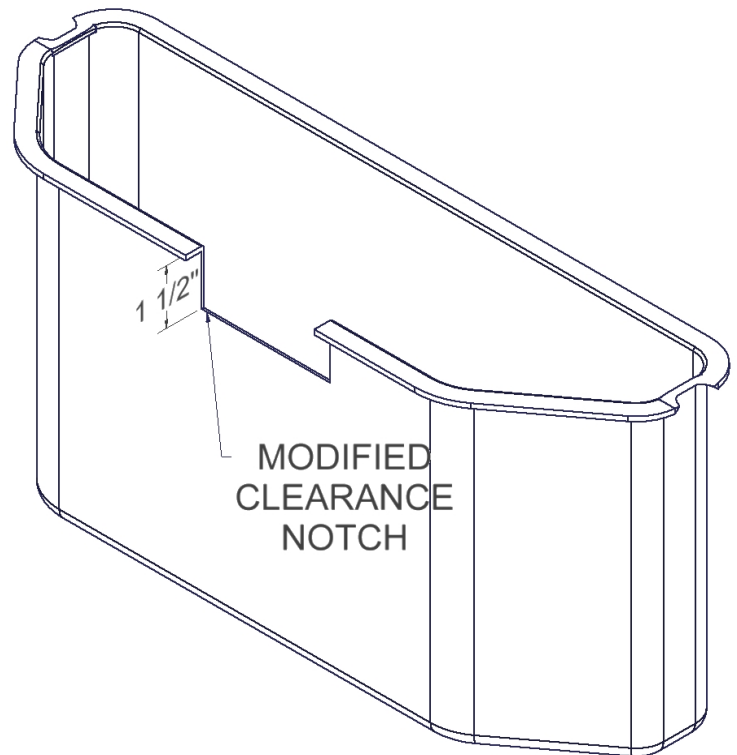

FIGURE 3
1. In order to clear the lock bracket, a notch must be cut in the upper forward edge of the plastic liner. This notch is located between the 7cm and 16cm marks(formed in the lip of the liner) and extends down 1½” from the upper lip of the liner. (SEE FIGURE 3)